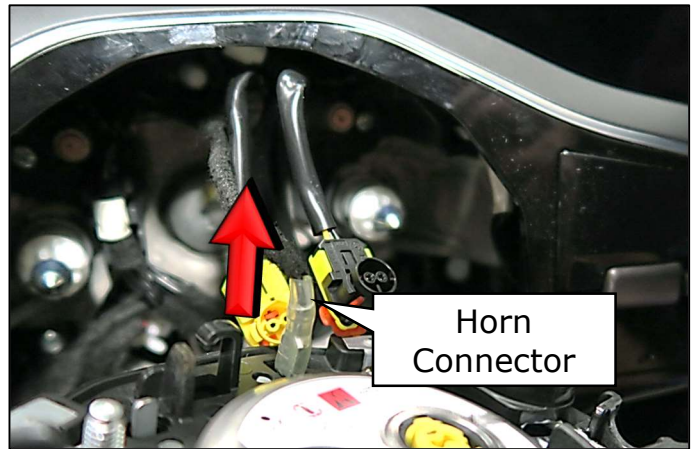

Figure 14
10. Disconnect the horn wire from the driver airbag by pulling the connector upward. (Figure 14)